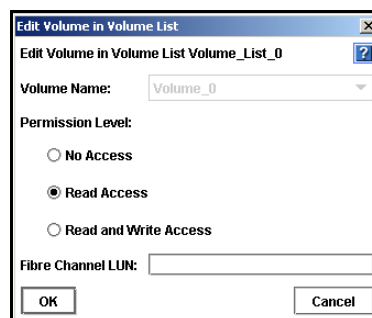

Figure 206. Editing Permissions on a Volume
2. Click Edit Permission Level. The Edit Volume in Volume List window opens, shown in Figure 206.